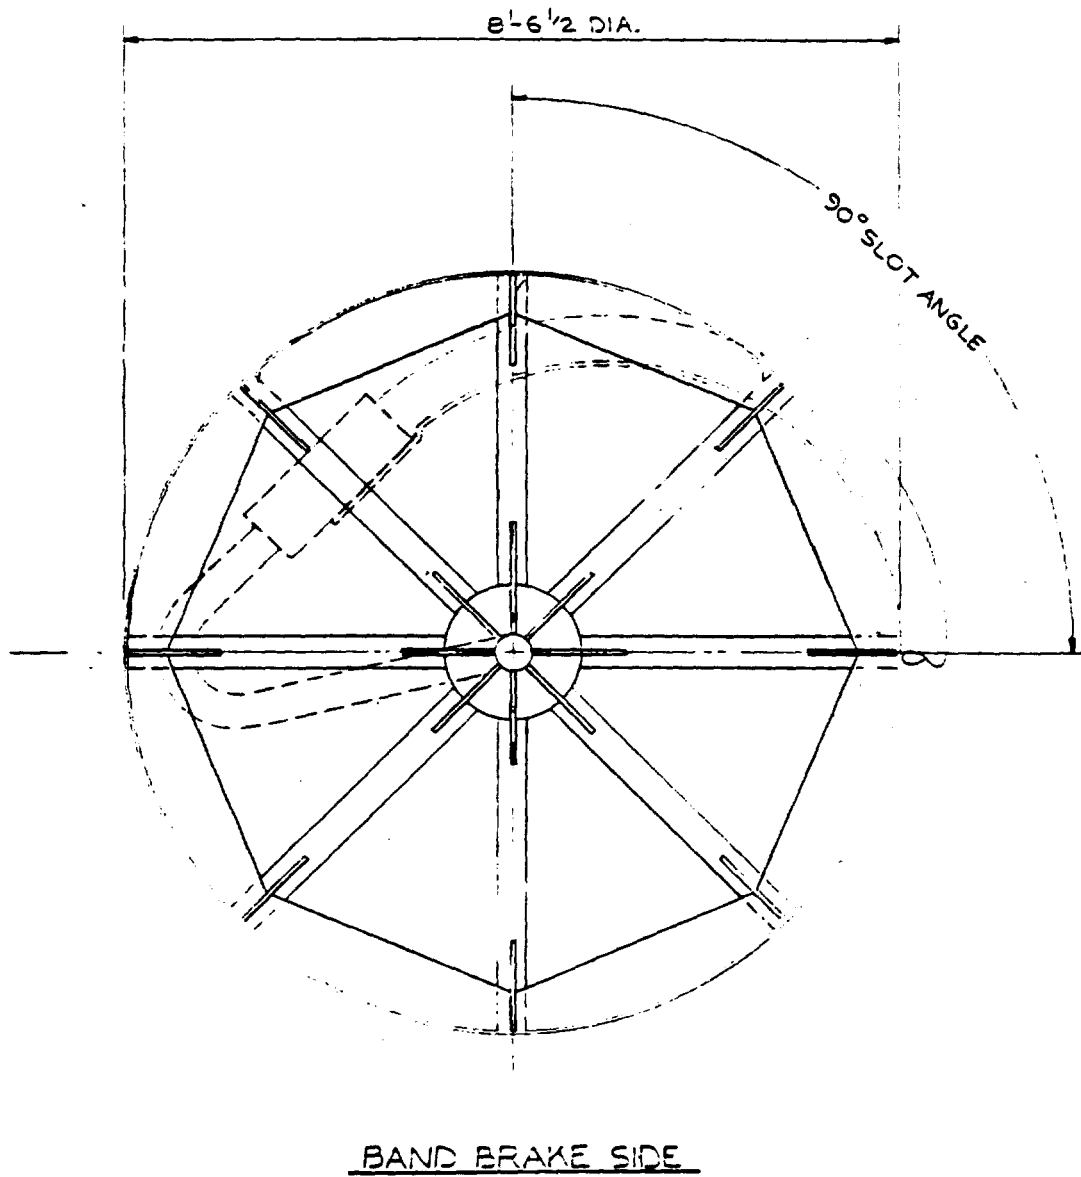

Figure 6-7. Orientation of Water Hose Line with Termination On and Inside Winch Hub
- 1) Using appropriate overhead handling equipment, position the water hose line termination down the hub chute so that it is resting as shown in Figure 6-7.